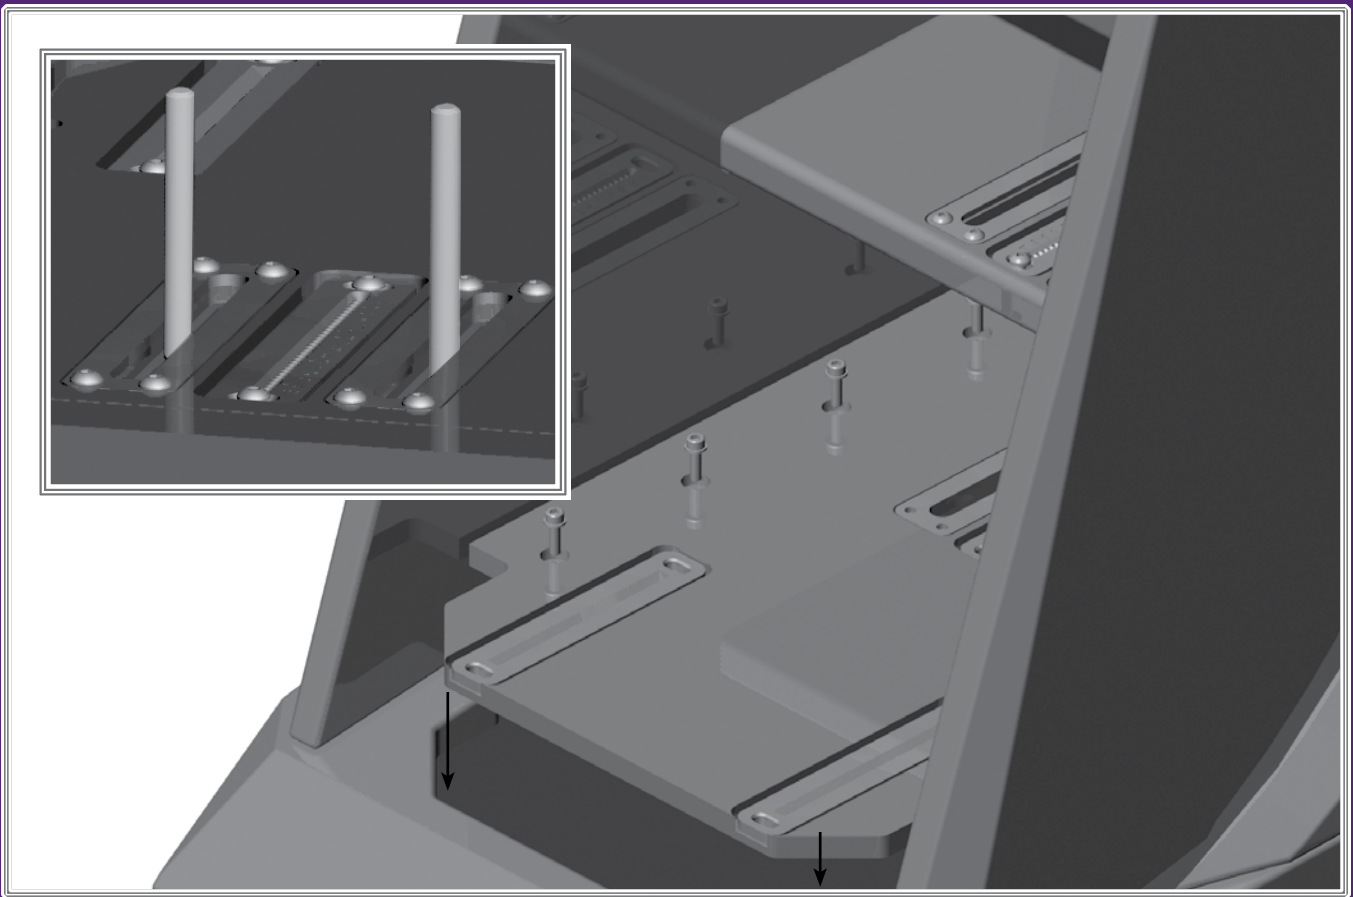

FIGURE 12 – WHEN RE-INSTALLING THE PROPAGATION DELAY PLATE, INSERT THE TETHER BOLTS IN THE REAR SLOTS ON EITHER SIDE OF THE NUMBERED PLATE.
- Insert tether bolts through the bottom of the plate (see Figure 12) so that the threaded portion of the bolt protrudes through the top of the plate.
- Attach the plate to the top of the woofer module (see Figure 12). Ensure that the tether bolts stay in place.